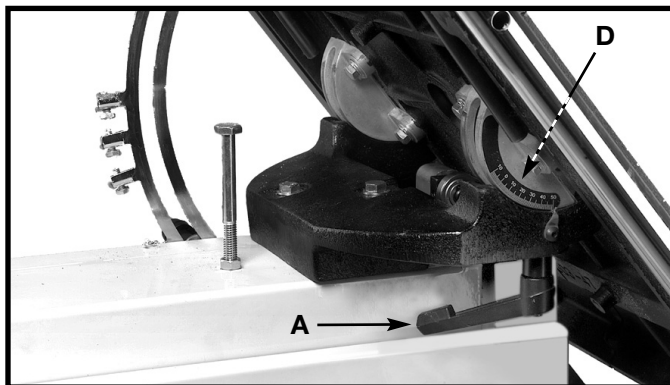
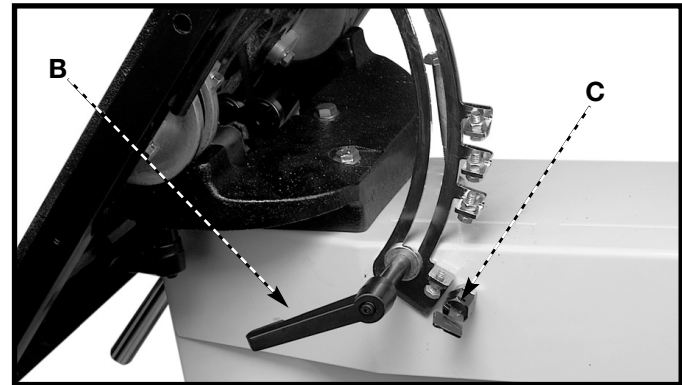

Fig. 16
Fig. 16A
The table can be tilted 47 degrees to the right and 5 degrees to the left. To tilt the table to the right, loosen the two clamp handles (one shown at (A) Fig. 16), and bevel lock handle (B) Fig. 16A. Move the stop tab (C) inset out of the way. Tilt the table to the desired angle on the scale (D) Figs. 16, and tighten the two locking handles (A) Fig. 16 and the bevel lock handle (B) Fig. 16A.